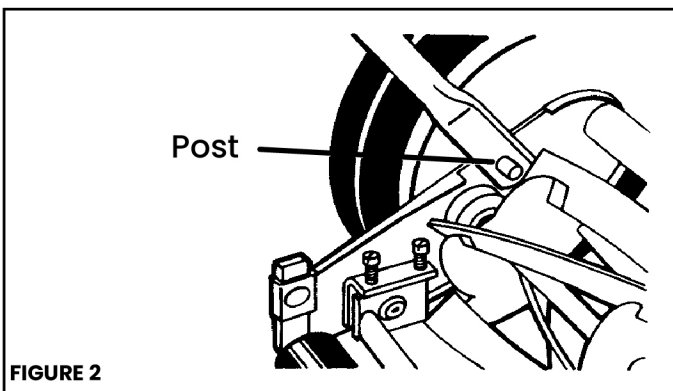

FIGURE 2
- 1. DO NOT** attempt to attach the handle to the bolts on the roller assembly at the rear of the mower. This is incorrect! As you follow the instruction below, refer to **FIGURE 2** for more information.